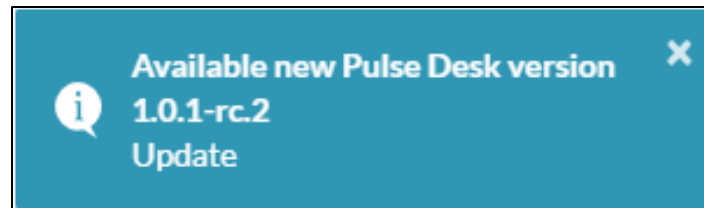

Figure 5-16: Update notification
1. Click the notification (**Figure 5-16**).
4. Start PULSE DESK as described in **Section 4.1** and wait for about 10 seconds. During the time, the arm compares the current PULSE DESK version with that saved on the USB. If the software version on the USB is higher than the currently used one, PULSE DESK displays an update notification (see **Figure 5-16**).